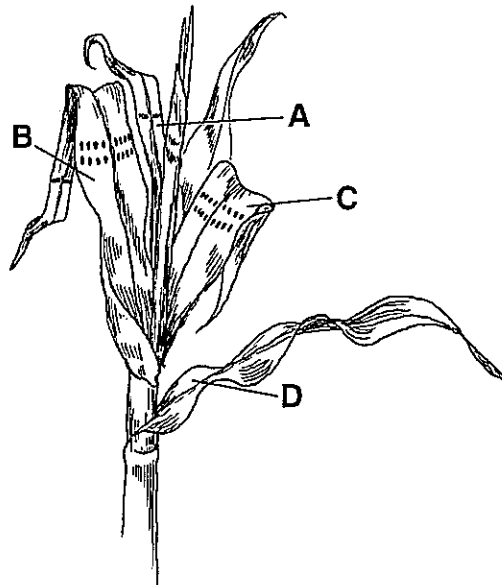

Figure 6.6 A corn plant with early-season damage from European corn borers.
3. Using Figure 6.6, note the position of each leaf and fill in Table 6.2. Row D is filled in for you.
4. Do you think that the damage in Figure 6.6 was caused by several caterpillars feeding on the leaves successively or by one or two feeding at the same time? Explain.
2. Look again at Figure 6.6 of shot hole damage. Are your model results consistent with this picture?